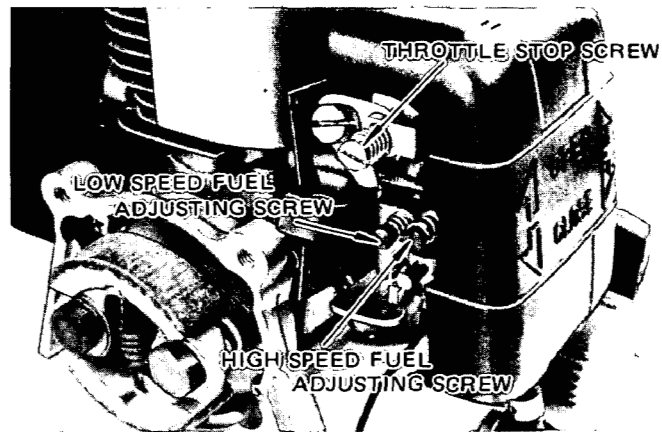

Fig. 12
1) Idle adjustment (See Fig. 12)
2) Fuel flow adjustment (See Fig. 12)